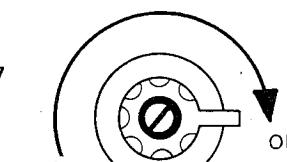

Fig. 7
2. Turn red control knob fully clockwise to the "OFF" position (Fig. 7). Do not force the red control knob past the "OFF" position.